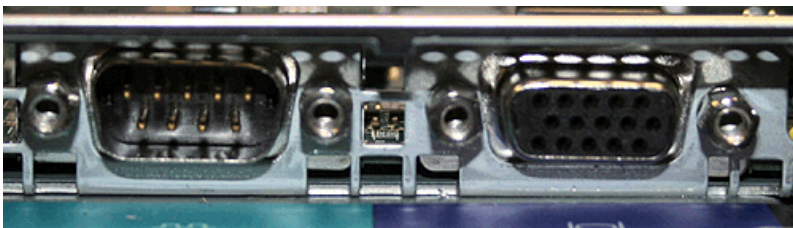

Figure 296. Serial and video ports on the SAN Volume Controller 2145-8G4
3. Replace the four stand-off screws from beside the I/O ports at the rear of the server. Figure 296 shows the location of the stand-off screws.